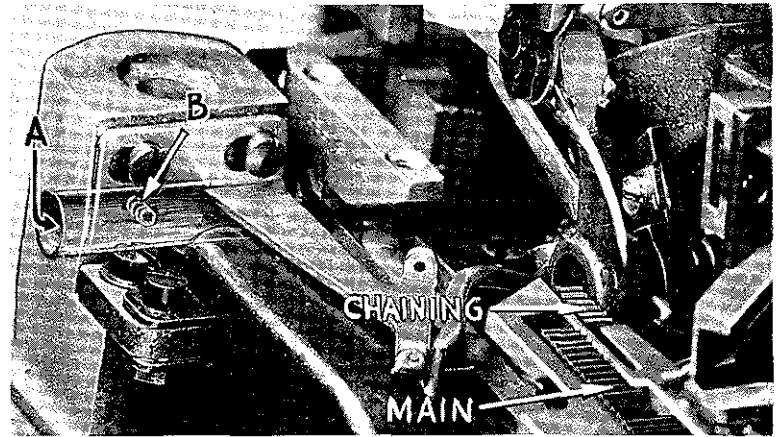

Fig. 11
Feed Dogs should be leveled with throat plate surface by rotating feed tilting adjusting pin (A, Fig. 11). This pin raises or lowers the back end of feed bar. Feed dogs should be set level at the time teeth first appear above throat plate. Screw (B) locks feed tilting adjusting pin in place. Now set feed dogs at highest point of travel: main feed dog teeth set $3/64$ inch above throat plate; and chaining feed dog teeth set about flush with surface of throat plate.